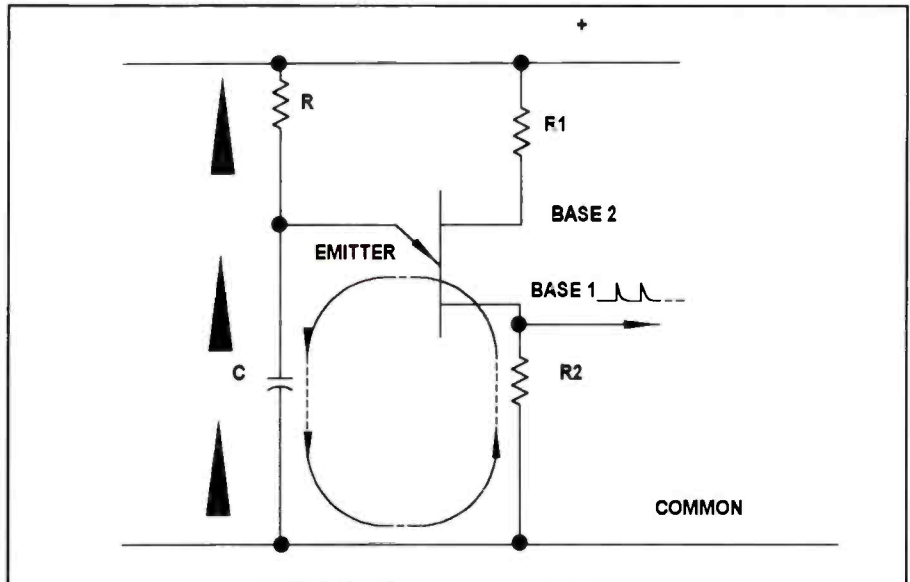

Figure 1. A UJT (unijunction transistor) can be used as the basis of an oscillator circuit.
In the past, I covered the UJT and some of its major characteristics. Let me remind you of its important features. Figure 1 reviews the symbol for the UJT, and it shows a basic UJT oscillator circuit. The UJT will not conduct current from Base 1 to Base 2 until its emitter reaches the intrinsic standoff ratio voltage ($h \times V$). That is the decimal value of the intrinsic standoff ratio (h) multiplied by the applied voltage across the UJT (V). (Note: h is a Greek letter called *eta*.)
Suppose you want the UJT oscillator circuit in Figure 1 to conduct at 5-second intervals. Assume that you are using a UJT with an intrinsic standoff ratio of 0.63. Choose R and C with a time constant of 5 seconds. It is best to choose an